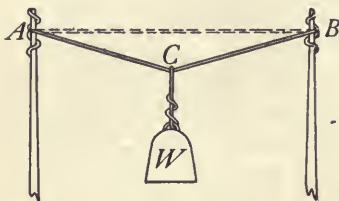

FIG. 69.—Forces acting upon a stretched rope.
4. A weight of 100 lbs. is suspended at the middle of a rope ACB 20 ft. long. (See Fig. 69.) The ends of the rope are fastened at points A and B at the